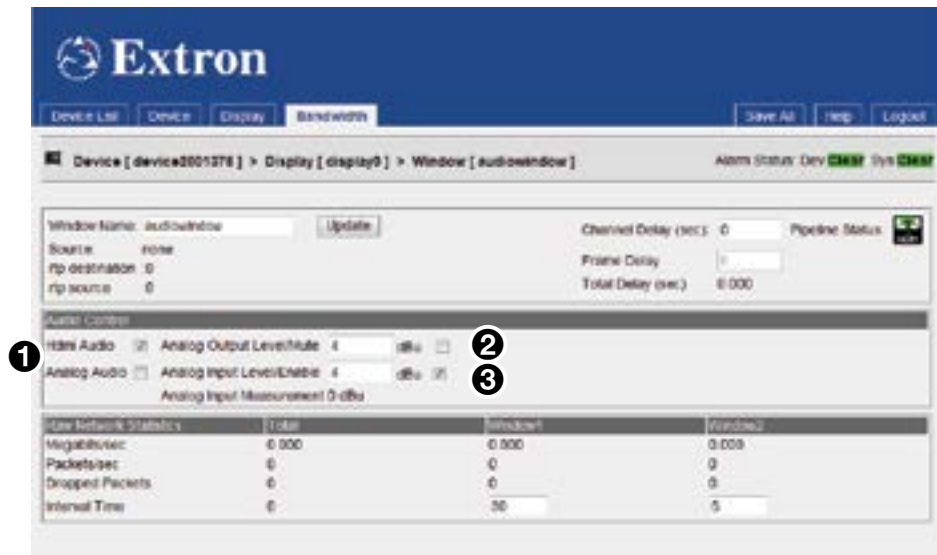

Figure 62. Bandwidth (audio) Tab
2. Click the bandwidth **audio** link (❷). The Bandwidth (audio) tab opens. This is the same as the Bandwidth (video) tab but has an Audio Control panel (see figure 62):
3. Select the appropriate check boxes to output the received audio stream to the HDMI port, the Analog output port or both (see figure 62, ❶).
4. The analog audio output level is controlled using Analog Output Level/Mute (❷). The output level is correct if the input level on the encoder was correctly configured for optimum signal.
5. Select the input level for the reverse audio, using Analog Input Level/Enable (❸). Set the value just larger than the maximum value that is being input. (For more information about the Bandwidth (audio) tab, see Decoder audio Bandwidth tab on page 63.)